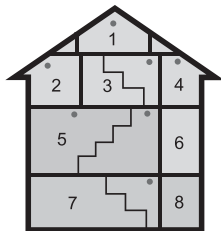

Fig.4
- Position mounting plate on the ceiling and mark screw positions with pencil. Pay attention to Fig.4 to Fig.8 for correct alarm locations.